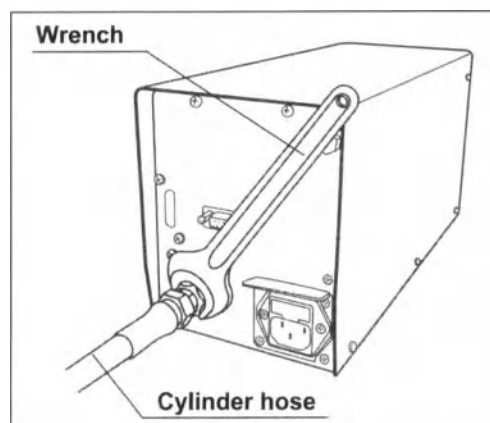

Figure 3.1
See the installation workflow in Figure 3.1 below. Follow each step of the workflow before using the endoscopic CO₂ regulation unit.
- 3 Use the supplied wrench to attach the medical gas pipeline adapter for the endoscopic CO₂ regulation unit to the CO₂ gas inlet on the rear panel of the endoscopic CO₂ regulation unit and securely tighten it. Tighten with a force of about 24.5 N·m (2.5 kgf/m). (See Figure 3.1)